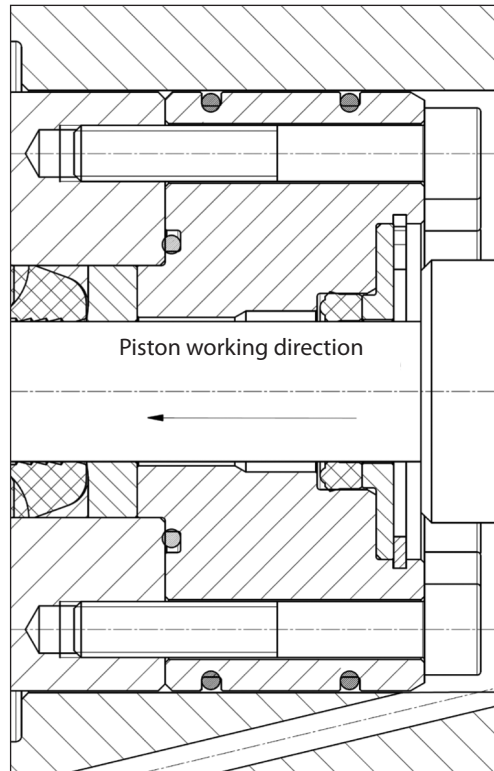
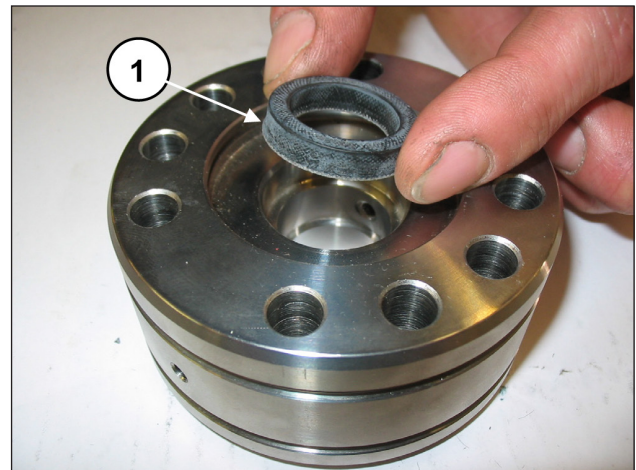

Fig. 139
Fig. 140
The L.P. seal must be inserted in the liner with the lip seal in the direction of piston operation (pos. ①, Fig. 139 and Fig. 140), slightly lubricating the external diameter with OKS 1110 silicone grease. Replace the L.P. seal whenever wear is detected.